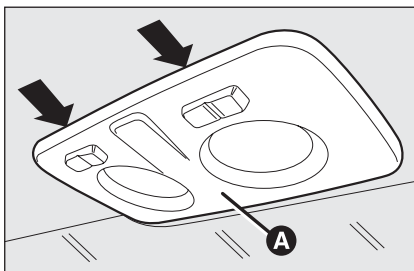
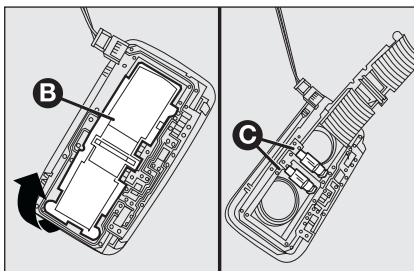

fig. 29
fig. 30
- work in the points shown by the arrows and remove light **A**-fig. 29;
- open the protection lid **B**-fig. 30;
- re-close the lid **B**-fig. 30 and secure light **A**-fig. 29 into its housing locking it properly.